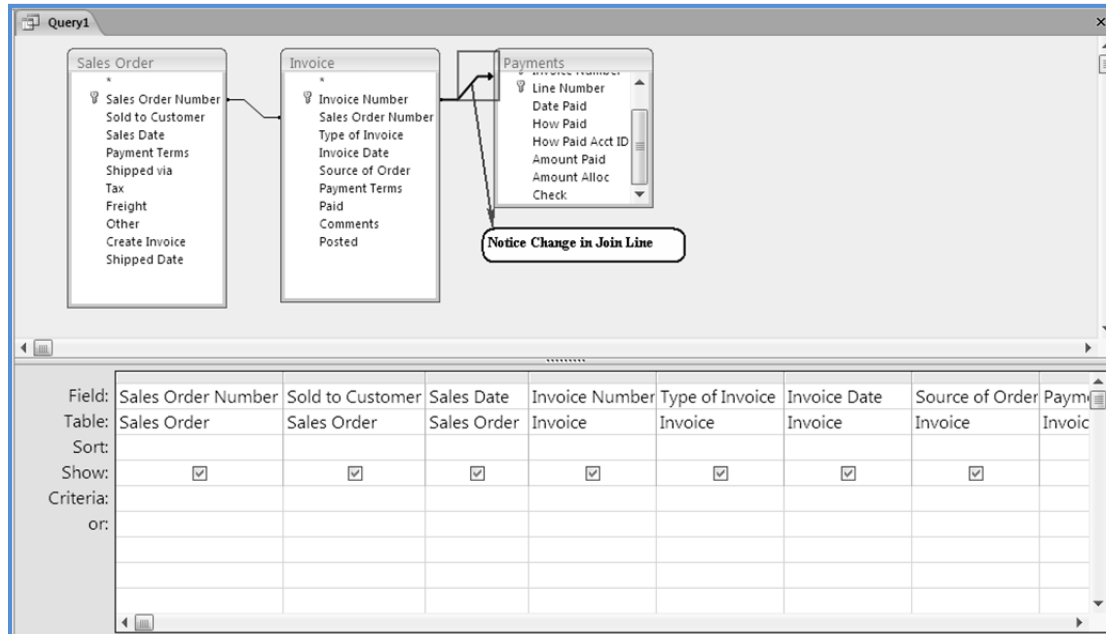

Fig. 1.3.9: Left Outer Join between Invoice and Payments tables
9. The Join line changes to indicate that it is a left outer join. Notice an arrow pointing towards the *Payments* table as indicated in Fig. 1.3.9.